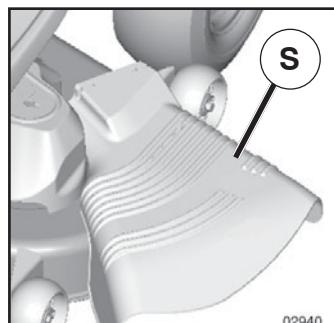

Fig. 21
**CAUTION: Do not operate the mower without either the entire grass catcher, on mowers so equipped, or the deflector shield (S) in place (See Fig. 21).**